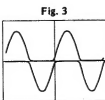

Fig. 3
Now, when a signal current is passed through the NPN type power transistor TR1, the base-emitter voltages V_{BE} of TR1 and TR3 and the voltage across the emitter resistor R_E also increase. Accordingly, the voltage between points (A) and (C) changes to 1.9V. On the other hand, since the voltage between points (A) and (B) is maintained at 2.4V, only a voltage of 0.5V is applied to between two points (B) and (C) as the bias voltage of the PNP type power transistors TR2 and TR4. Therefore, the transistors TR2 and TR4 are kept in a cut-off state or a reverse bias state. Fig. 3 shows this condition, indicating that the switching of push-pull operation is in a critical state.